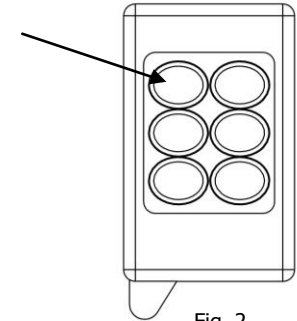

Fig. 2
- 3) Press the **top left*** button on the first key-fob to be programmed for 1 second (see Figure 2 below.) The red light will stop flashing momentarily and then start flashing again.